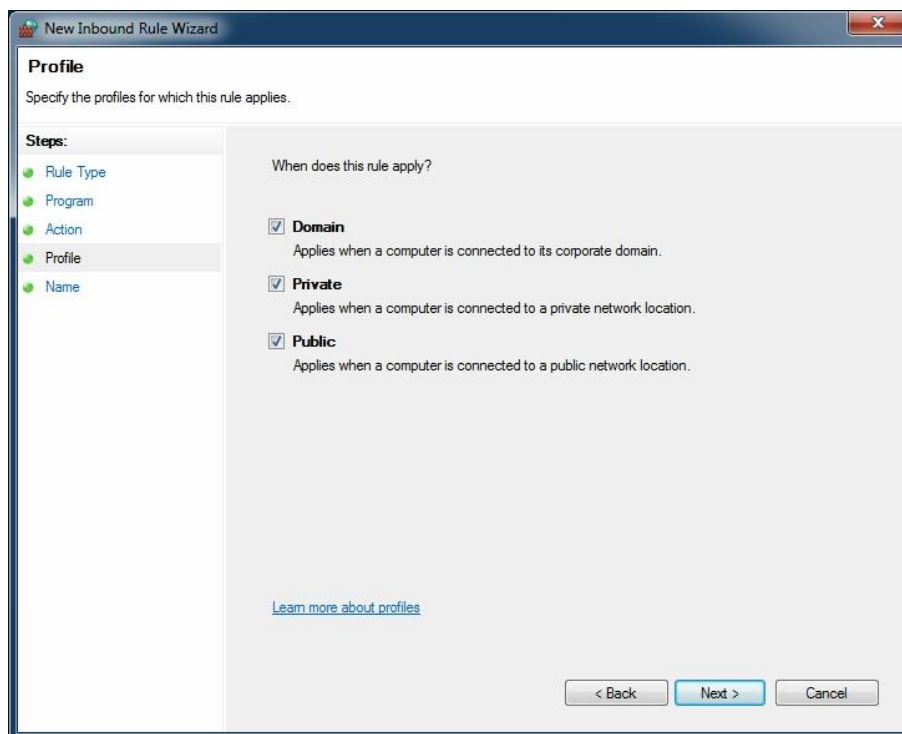

Figure 3-15 Windows Firewall – Advanced Security New Rule: Domains
Step 9: On the PROFILE menu, select the domains that the rule will apply to as shown in Figure 3-15.